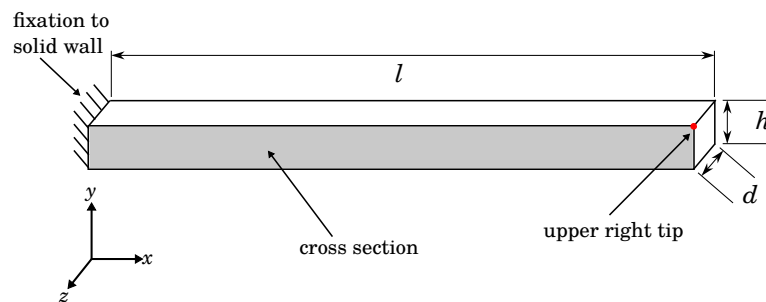

Figure 1: Cantilever beam fixed at its left hand side. The x - y -cross-section is colored in gray.
In Fig. 1, the setup of a cantilever beam made of steel is shown. The cantilever is fixed at its left hand side to a solid wall and is allowed to bend freely at the right hand side. The aim of this assignment is to characterize the mechanical behavior of this beam by means of numerical simulations.
Consider the following dimensions for the geometry of Fig. 1:
- 1.2. Consider the analytic formula for the estimation of the first three bending modes (bending eigenfrequencies) for bending around the z -axis of the cantilever shown in Fig. 1 (see Parkus: "Mechanik der festen Körper", Springer, 1995):
- 2.3. Model the relevant cross-sectional area as shown in Fig. 1.
- 3.1. Apply the analytic formula, which you derived, to estimate the first three eigenfrequencies of the assembly from Fig. 1 using the given set of parameters. The required material data has been extracted in task 2.8. You can do the computations in Matlab, as you will be using the results in task 3.8. again. Please write the three calculated eigenfrequencies into **Results.pdf**.
- 4.1. Excite the cantilever by applying a force in y -direction at the upper right tip marked in Fig. 1. The time-dependent force should consist of a sinusoidal burst with the following properties:
- 4.1.4. Add a **Point Load** node to your physics and apply it to the upper right tip point marked in Fig. 1. Enter $\mathbf{an1}(\tau)$, which is your function defined in 4.1.3., as time-dependent value of the y -component of the force. The variable τ is a global variable in COMSOL which represents time.